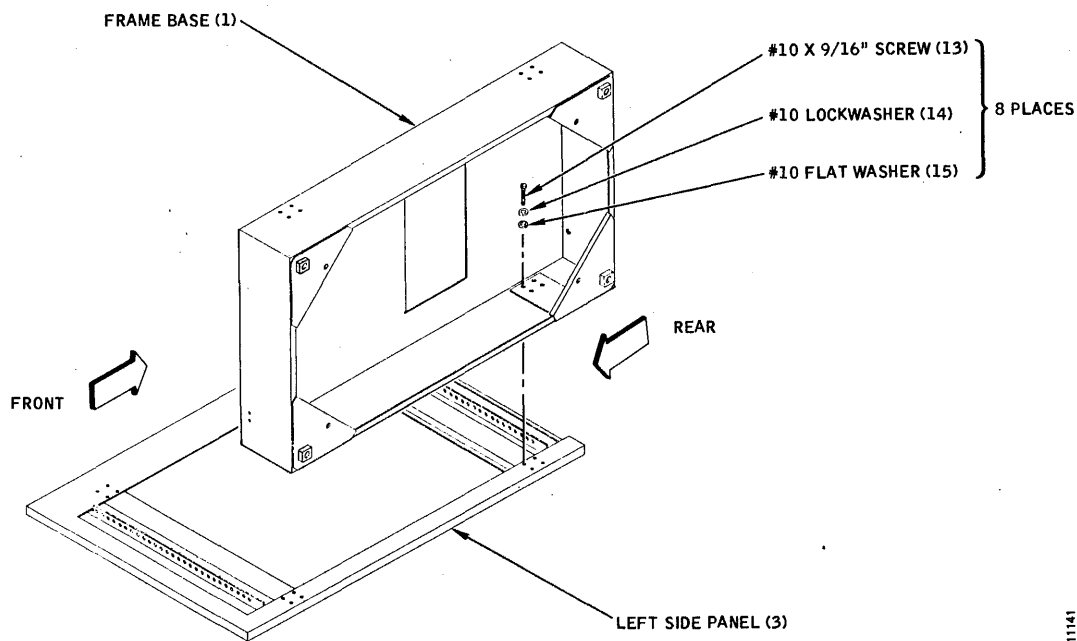

Figure A-1. Stand Assembly, Step 2
2. Lay the corrugated cardboard packing material on the floor for use as an assembly surface to protect the finished surfaces of the panels from being marred. Place the Left Side Panel (3) flat on its finished surface, and assemble the Frame Base (1) to it by using eight #10 x 9/16" pan head screws (13), #10 split lockwashers (14), and #10 flat washers (15), as shown in Figure A-1.